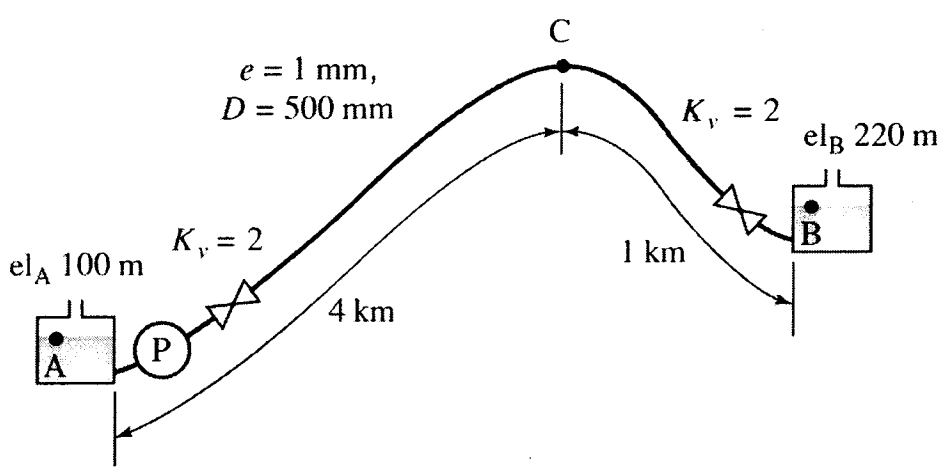

Figure 8 / Rajah 8
7. Gasoline is being pumped at 400 L/s in a pipeline from location A to B as shown in Figure 8. The pipe follows the topology as shown, with the highest elevation shown at location C. The only contributions to minor losses are the two valves located at the ends of the pipe. If $S = 0.81$, $v = 4.26 \times 10^{-7} \text{ m}^2/\text{s}$, $p_v = 55.2 \text{ kPa}$ absolute and $p_{\text{atm}} = 100 \text{ kPa}$.